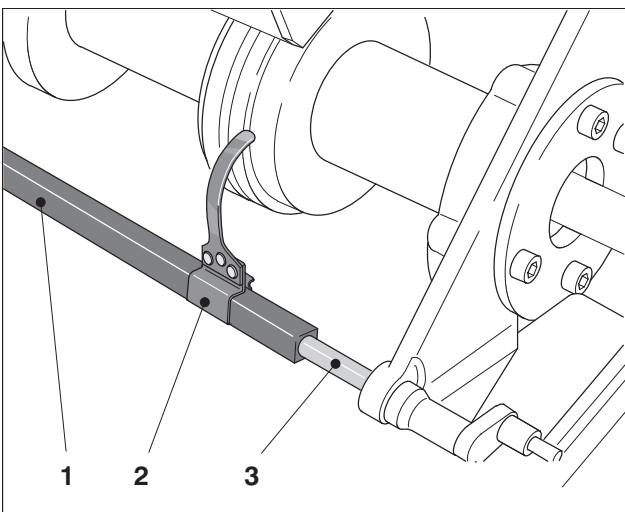

Fig. 47 Inserting the sheet guidance springs
The sheet guides are slid onto the feeder side square cross bar (Fig. 47/1) of the numbering inking unit outside the press. They press the print sheet against the impression cylinder during the numbering process. They must be positioned in image-free areas to avoid damage to the print image.
1. Place the sheet guidance spring on the rounded side of the square cross bar (Fig. 47/3) onto the cross bar. The bend of the sheet guide must point away from the numbering boxes (Fig. 47)
2. Arrange the sheet guidance spring (Fig. 47/2) on the square cross bar in such a way that it is positioned in the image-free area of the print image.
5. Move the sheet guidance springs on the square cross bar to the rounded edge (Fig. 47/3) and take them off the cross bar.